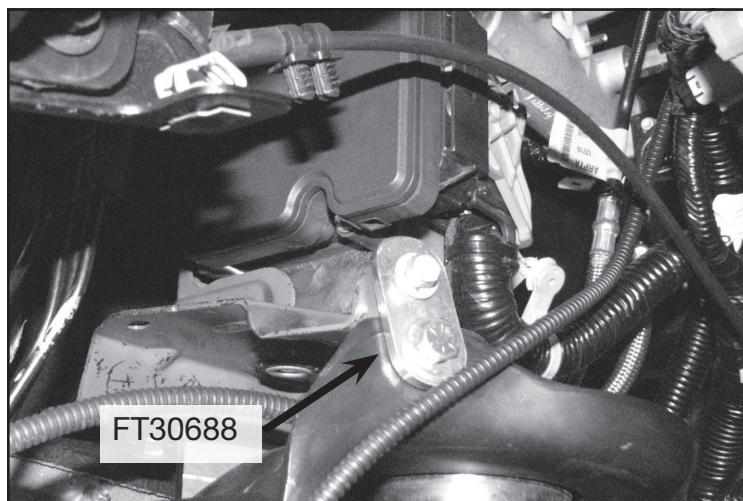

FIGURE 20 - STEP 21
21. Install FT30688 (ABS Tab) using the factory and 5/16" hardware. Torque to 29 ft-lbs. **SEE FIGURE 20**